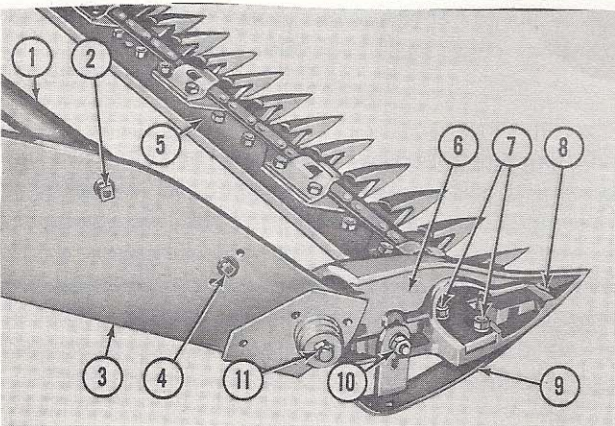

Figure 9
bar at the outer shoe, remove the bolt (10), Figure 9, raise or lower the shoe to the desired position on the shoe sole (9), and secure with the bolt, lock washer, and nut.